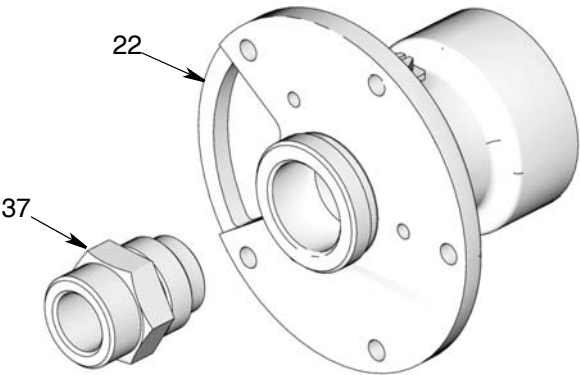

Fig. 28
4. Remove nut retainer (37) from flange (22) (Fig. 28).